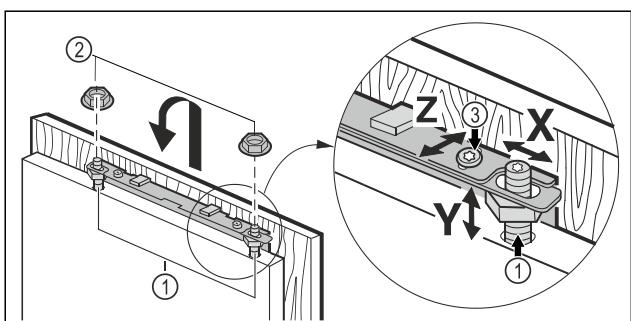

Fig. 41
- Hook the unit door onto the adjustment bolts Fig. 41 (1) and screw the lock nuts Fig. 41 (2) loosely onto the adjustment bolts.
- Align the unit door in height **Y** and in the lateral inclination: Adjust the adjustment bolt Fig. 41 (1) with a screwdriver.
- Tighten the lock nuts Fig. 41 (3).